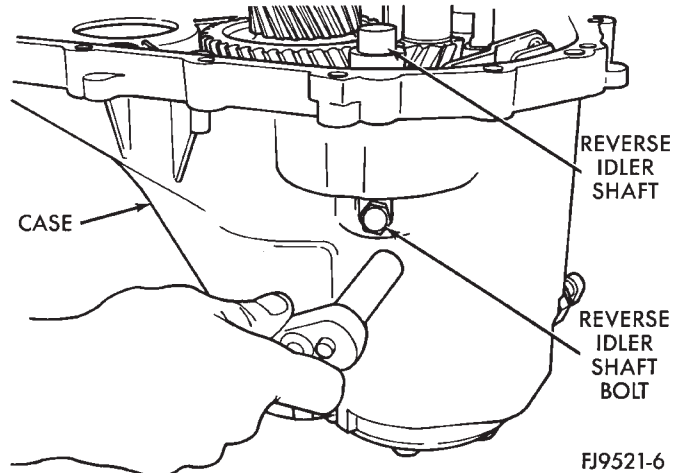
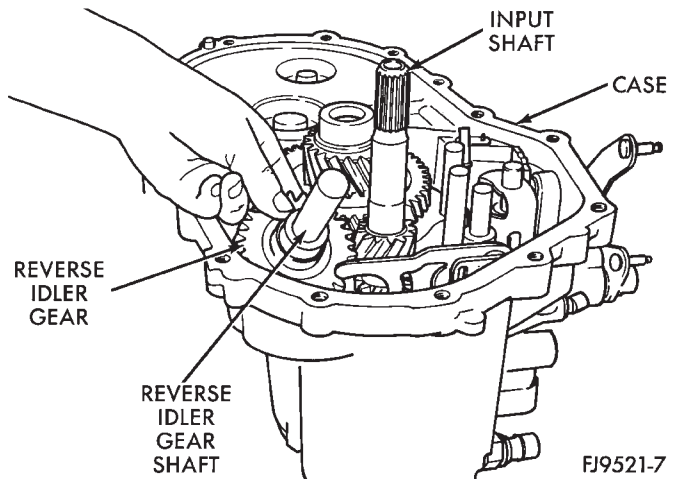

Fig. 44 Reverse Idler Shaft Bolt Removal
Fig. 45 Reverse Idler Gear Removal
(7) Remove reverse idler shaft bolt (Fig. 44). Remove reverse idler gear (Fig. 45).